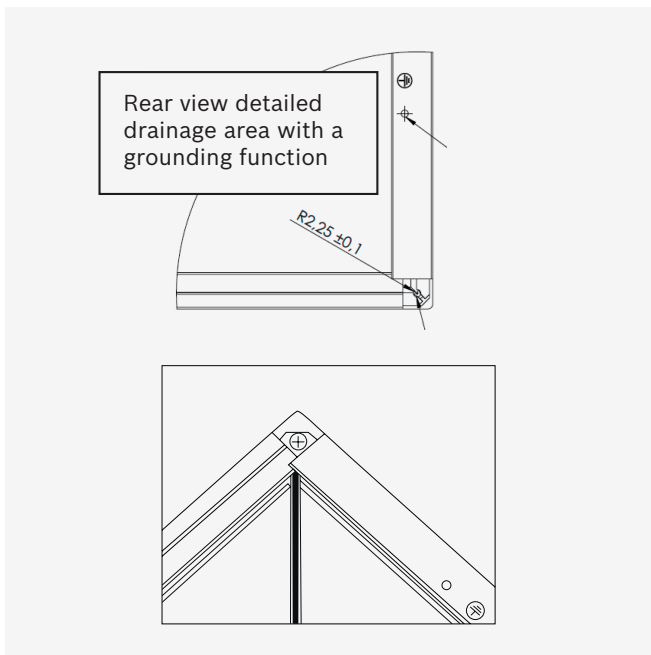

Figure 7: Grounding possibilities on the module with detailed illustration of module corner
- ▶ There is an additional grounding opportunity in the module corners. Use the grounding of a thread grooving screw M5 according to DIN7500-1 and attach it from the rear side of the module behind the plastic corner. See Figure 7.